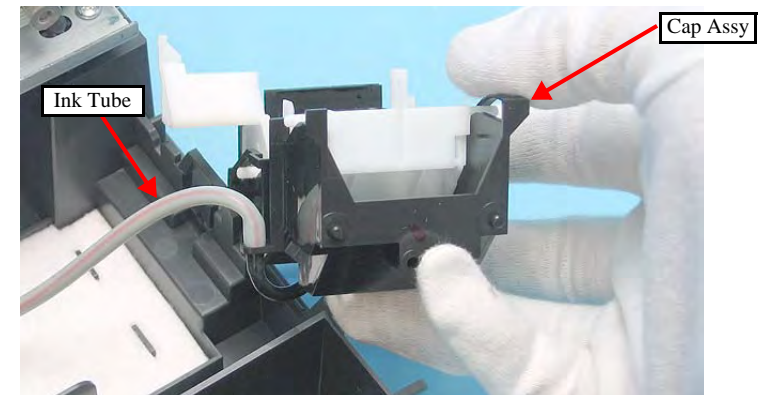

Figure 4-52. Removing Ink System (1)
3. Attach the Ink Tube. (refer to Figure 4-52)